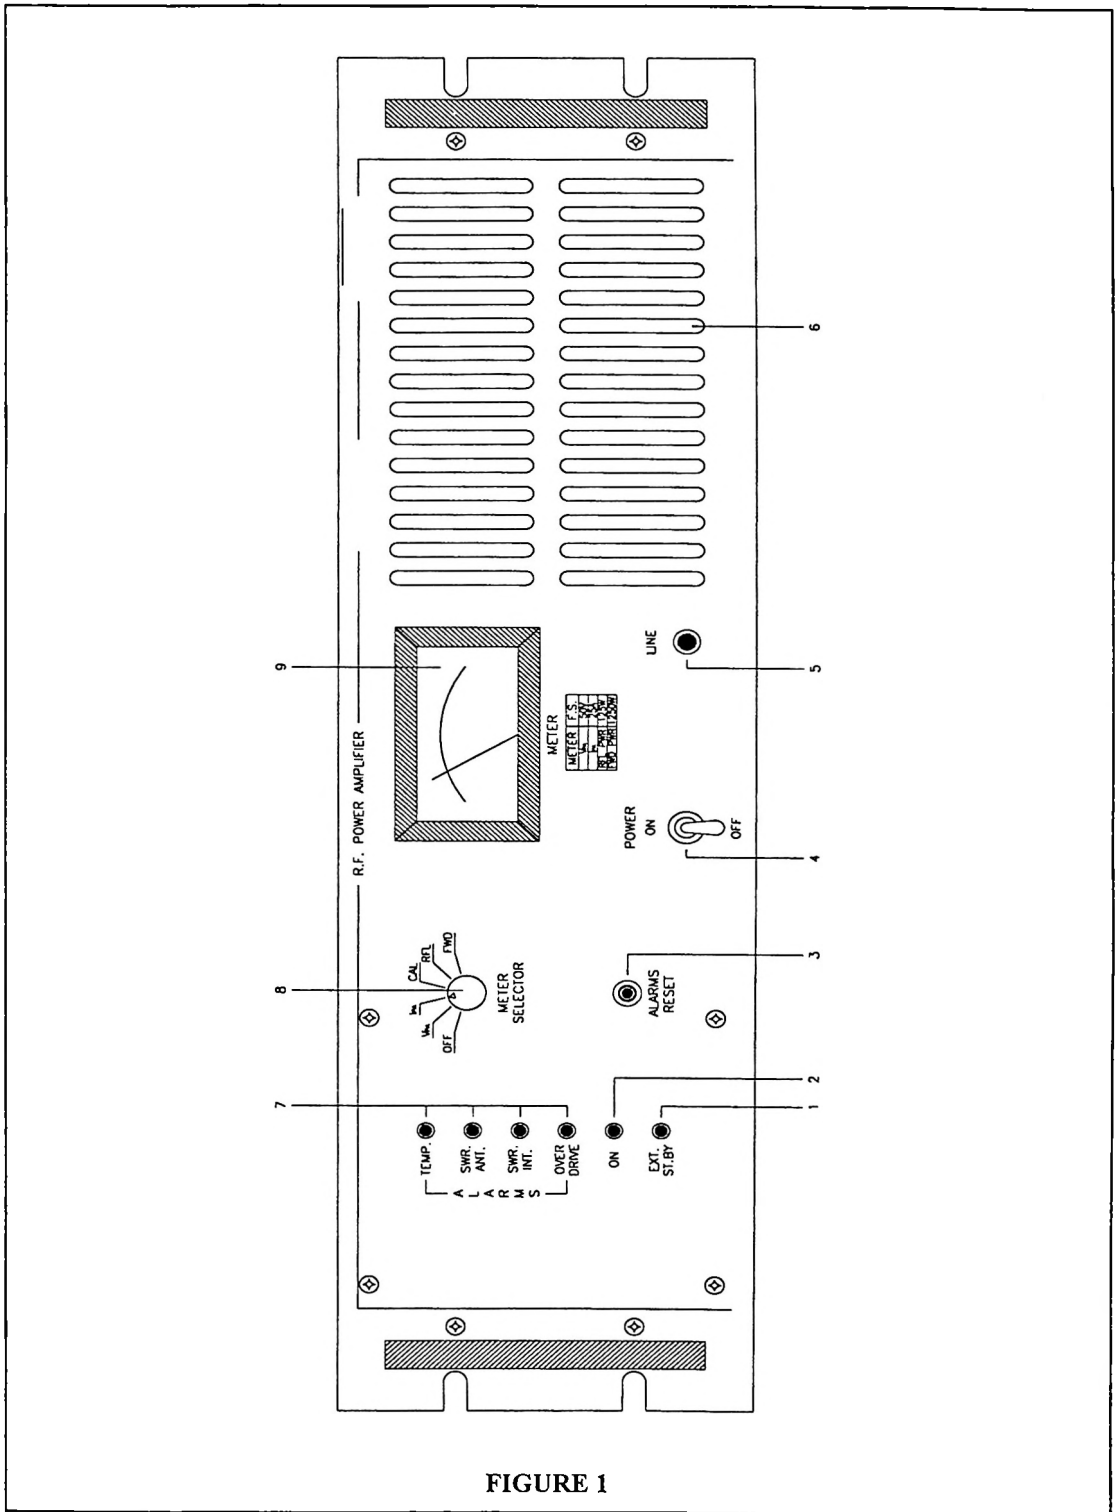

FIGURE 1
The principal parameters of the amplifier are read by the analog multimeter (9 Fig.1) and selected by the rotary switch (8 Fig.1) on the front panel. On the front panel are two different sections of LED indicators.
## FRONT PANEL VIEW DESCRIPTION (FIG. 1)
- 2) Leave the main switch in the off position (4 Fig.1).
- 6) Select with the meter selector (8 Fig. 1) the power amplifier supply voltage ( $V_{pa}$ ) and check the value of 50Vdc power supply. Select the current "PA I" and check the value (approx. 800mA). In the same way, check that FWD and RFL powers are zero.